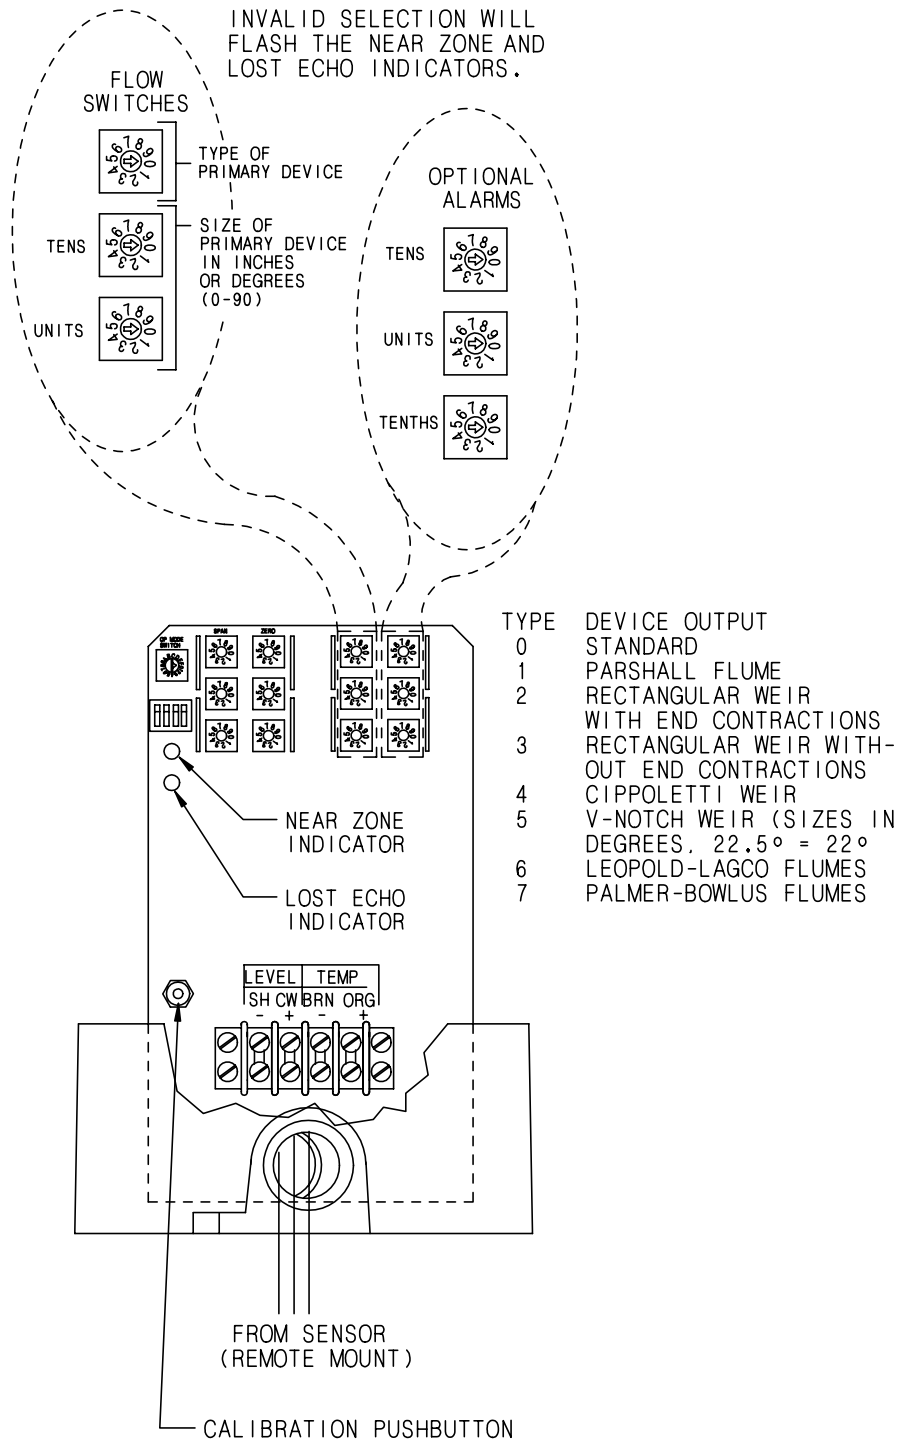

Figure 4-1
Use this procedure to select the type and size of the primary device. See *Figure 4-1* and *Table 4-1*.
- a. Refer to *Figure 4-1* for location of relay switches.